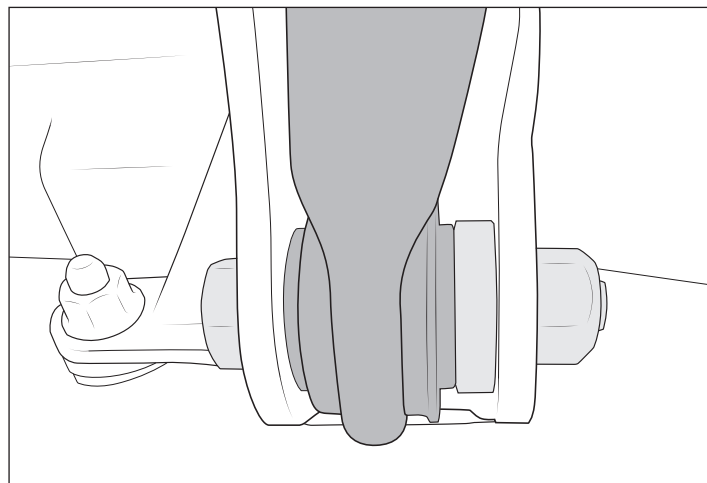

Figure 24
- D. Install supplied M18x90 bolt, washer, thick spacer, and locking flange nut on the AEV frame bracket. Pass the bolt through from the rear of the vehicle to the front. NOTE: If installed backward the bolt can interfere with the axle during suspension movement. The track bar should be installed toward the rear of the bracket with AEV supplied thick spacer between track bar and front tab of bracket (fig.24).